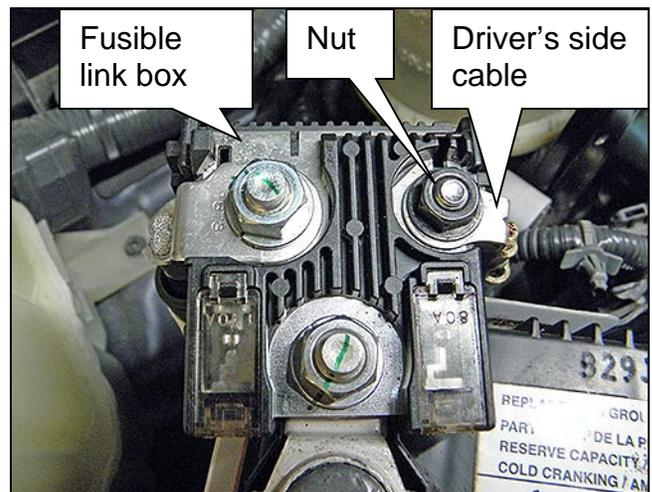

Figure 9
6. Remove nut and disconnect the driver's side cable shown in Figure 9 from the fusible link box.